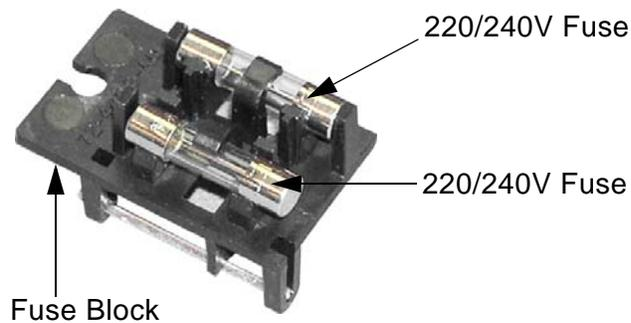

Figure 91. 220/240V Fuse Removal
- 1 Remove the dual 220/240V fuses, as shown in Figure 91.